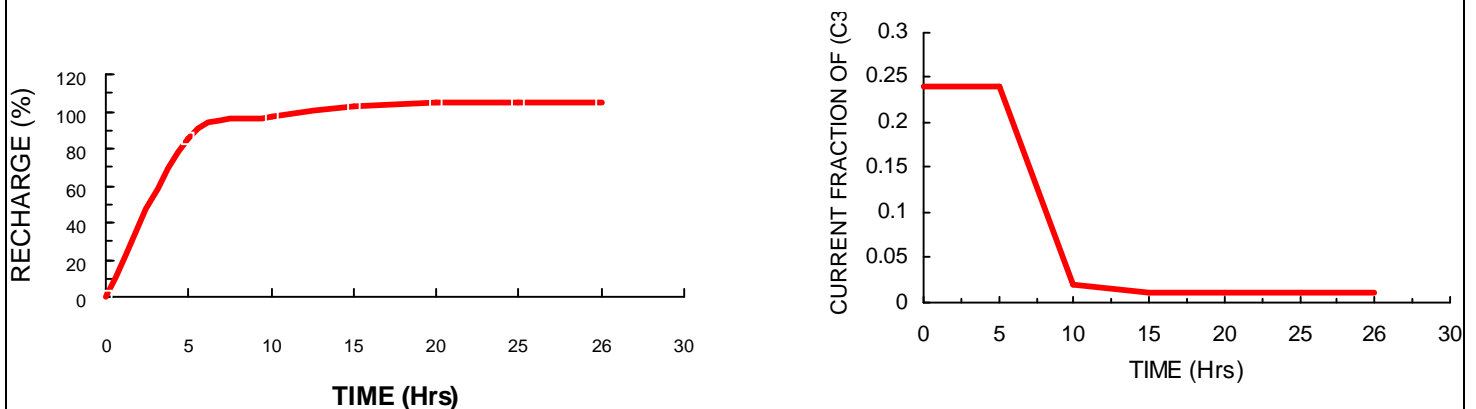

Fig 1. RECHAEGE 0.3C AMP LIMIT
- i. Float service 2.27-2.30V/C at 25°C(Fig 1)